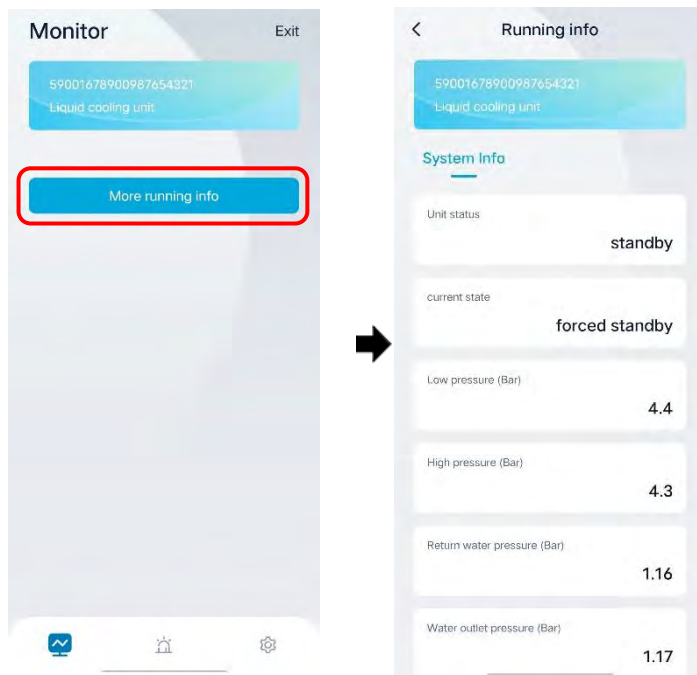

Figure5-16 More running info page
- Tap "More running info " button, the system info of liquid cooling unit can be viewed, such as the current status of the liquid cooling unit, the return water pressure, the discharge water pressure, etc., as shown in Figure5-16.